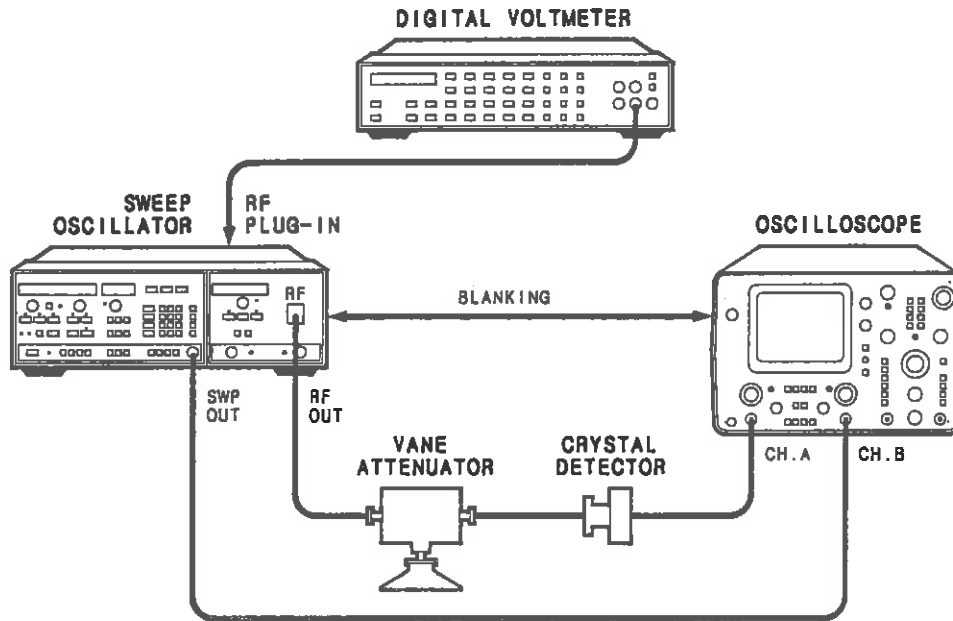

Figure 5-8. Maximum and Minimum Power Adjustment Setup
1. Connect the equipment as shown in figure 5-8.